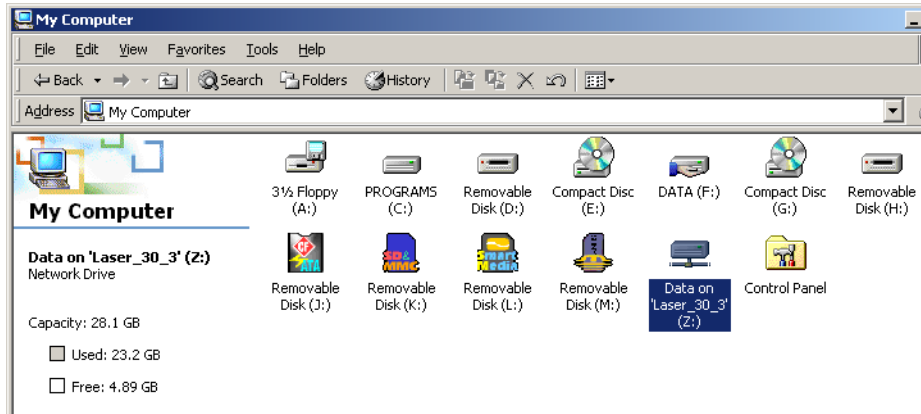

Fig.135 - New driver for the Data folder
- 4) Give **OK** to close the window. The result of the operation can be seen by clicking on the icon **My computer** placed in the desktop. As shown in fig. 135, now is present the drive **Z** referred to the **Data** folder of the LaserLab printer.